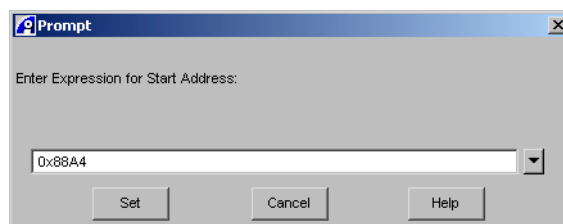

Figure 7-6 Memory start address selection box
8. Select **Set Start Address...** to display the dialog box shown in Figure 7-6.
Select this option to enter a C/C++ expression to compute the start address. This displays the selection box shown in Figure 7-6 on page 7-12 with the current expression already displayed. Change the address and click **Set** to specify the start address for the memory view.